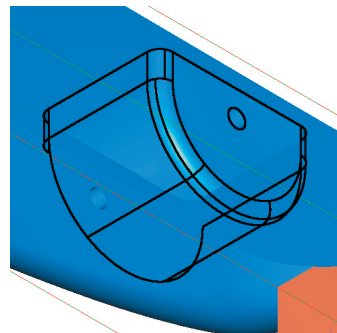
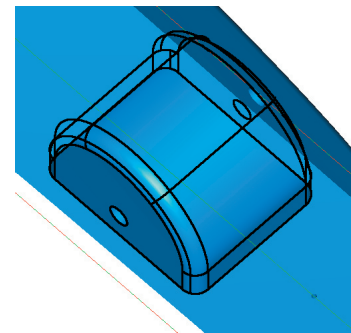

Fig. 56
Fig. 57
Step 6. Click all the surfaces inside the front wheel cutout. The edges will highlight when selected, **Fig. 56**. Use **Alt key and arrow right key** to rotate view to select all surfaces, **Fig. 57**.